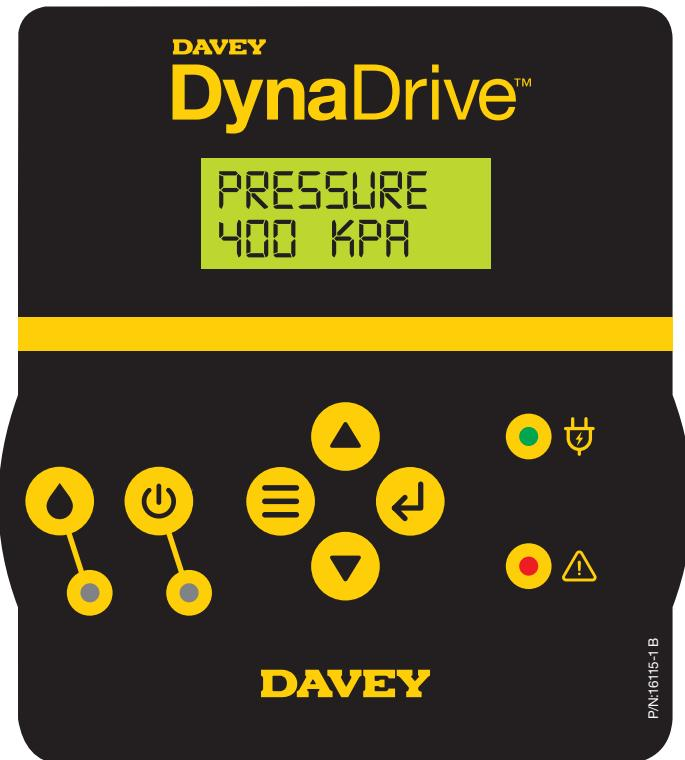

Figure 6.10
- Once the motor has slowed to a stop, press and hold the **Menu button** for ~ 5 seconds. The display will change to show your current set pressure, see figure 6.10;